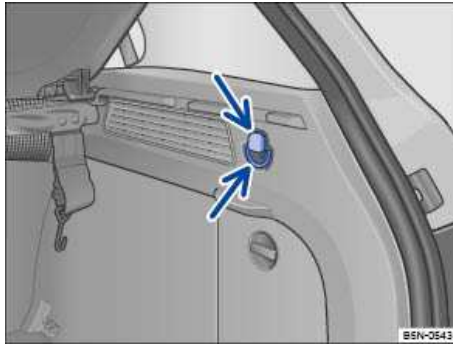

Fig. 105 In the luggage compartment: Shopping bag hooks.
- Press at the bottom to fold out the shopping bag hook ⇒ fig. 105.
- Press at the top to fold out the shopping bag eye ⇒ fig. 105.